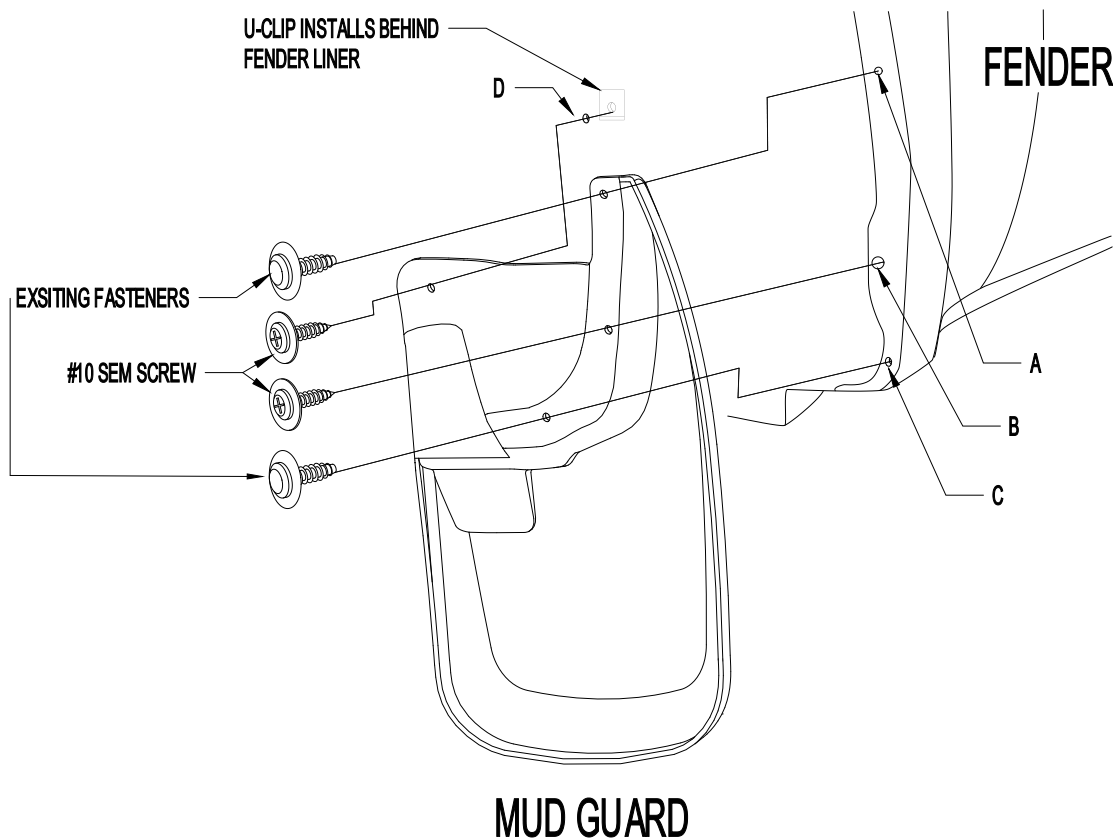

Figure 1
1. Remove existing fasteners from location A and C (Figure 1).
2. Install mud guard with existing fasteners at location A and C. Check fit and make sure mud guard is parallel to ground before tightening (see Figure 1).
5. Install #10 SEM screw at location D, thru mud guard, fender liner and into a **u-clip** behind liner. NOTE: The u-clip is used like a nut and DOES NOT clip over fender liner (Figure 1).